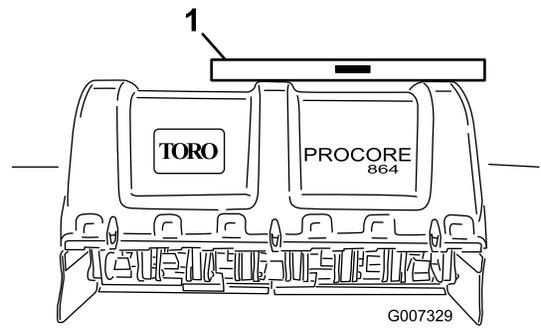

Figure 15
2. Place a level on top of the aerator frame to check for level side-to-side (Figure 15).